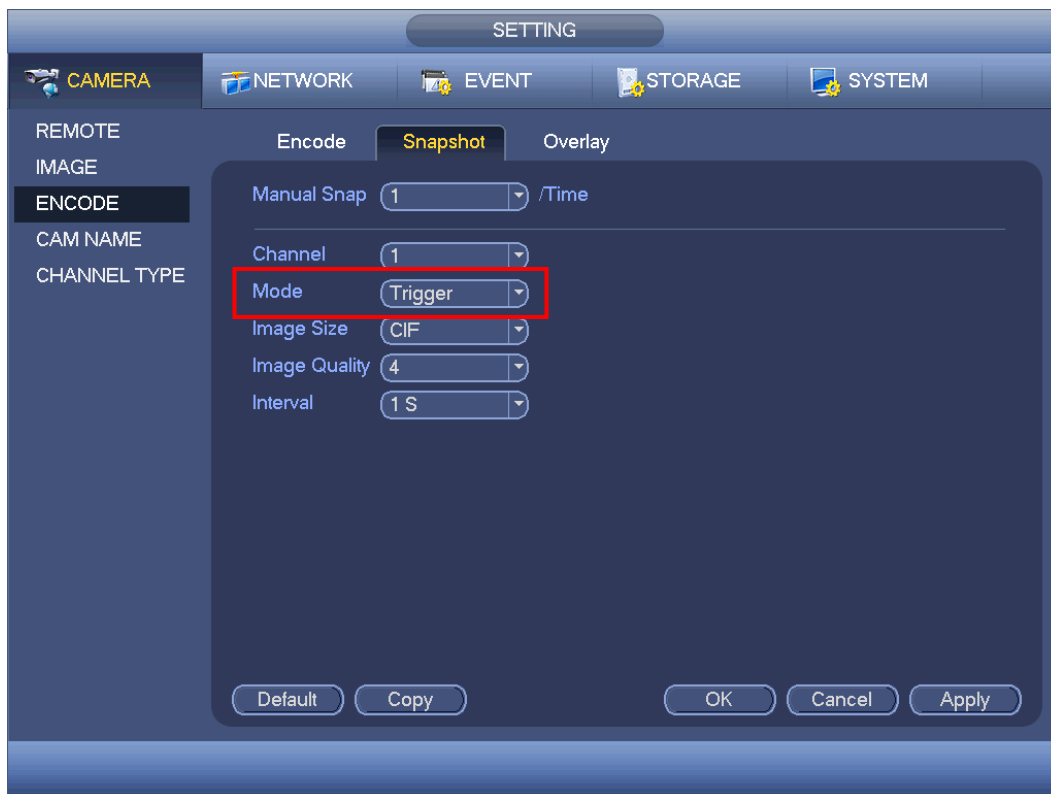

Figure 4-177
- In main menu, from Setting->Camera->Encode->Snapshot interface, here you can input snapshot mode as trigger, size, quality and frequency. See Figure 4-177.